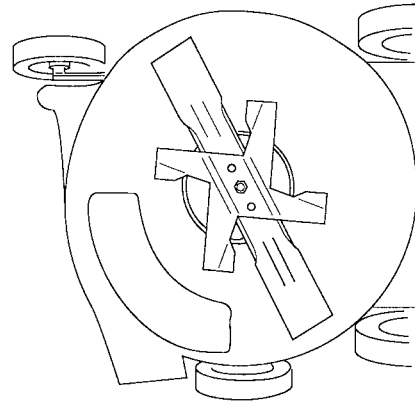

Figure 26
2. Tip mower onto right side (Fig. 26).